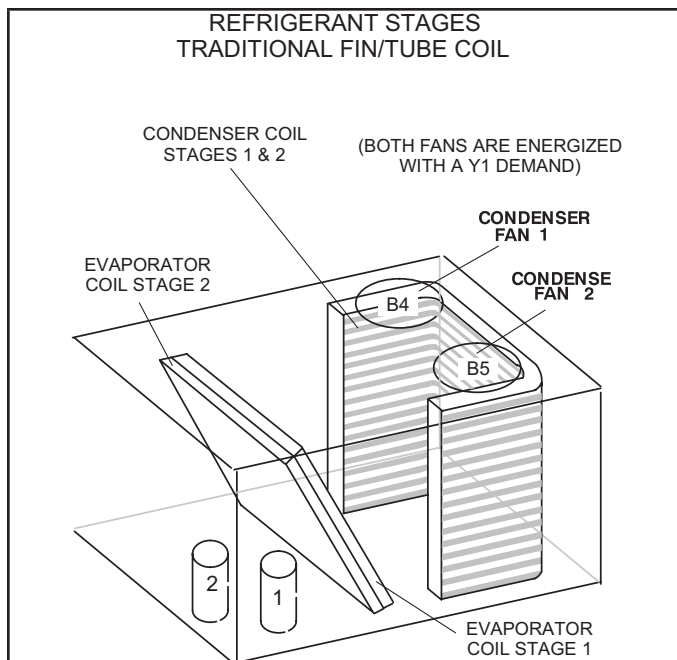

FIGURE 22
- 3 - Units have two refrigerant circuits. See FIGURE 22.